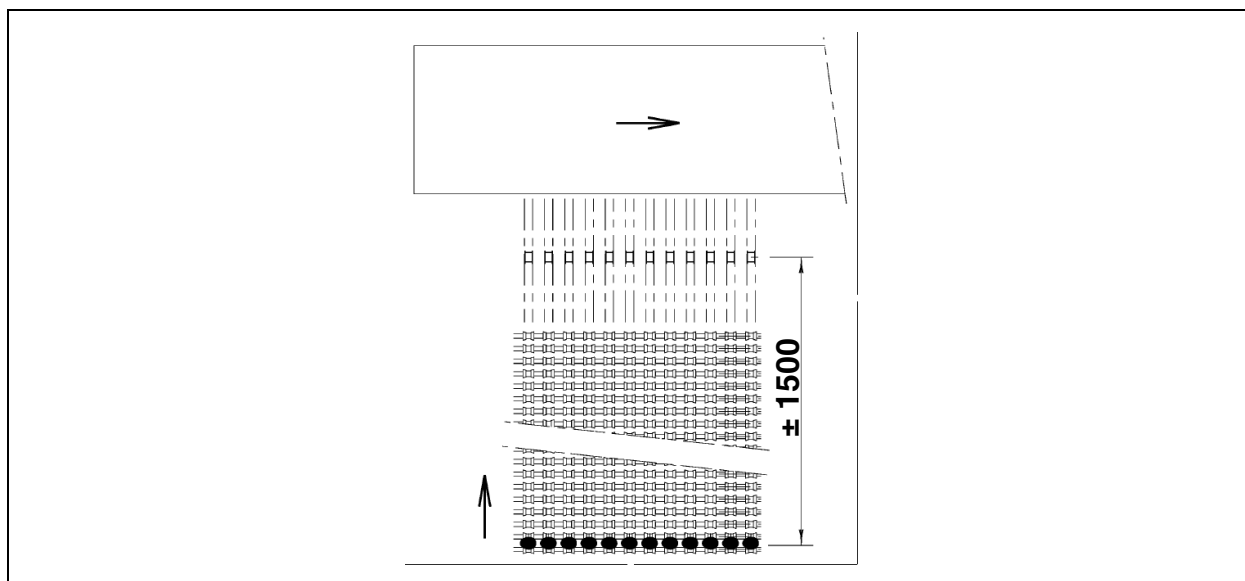

Fig. 144 - PTB test procedure
5. Place the 6 or 12 or 18 calibration eggs on the infeed rollers with the point pointing in the correct direction, about 1500 mm in front of the loadcell unit. See fig. 144.